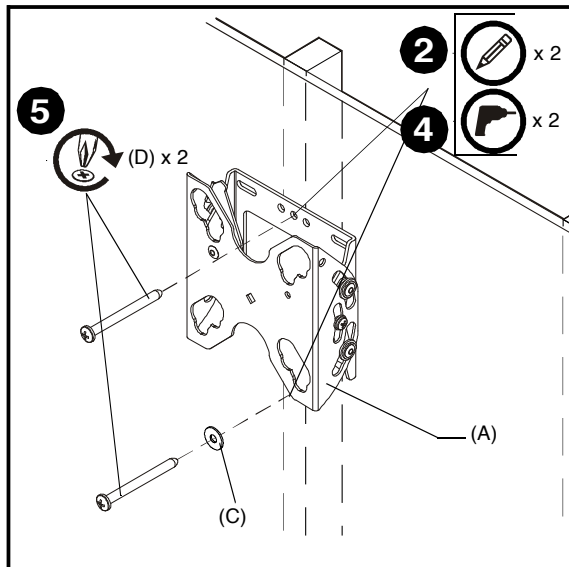

Figure 1
3. Level PBM-WMS assembly (A) at desired height and, using it as a template, mark the location of upper and lower pilot holes. Ensure marks are in the center of wood stud.
5. Fasten PBM-WMS to wood stud using two #10 x 2-1/2" Phillips head screws (D) through two #10 washers (C), PBM-WMS (A), and drywall (not shown) and install into pilot holes. (See Figure 1)